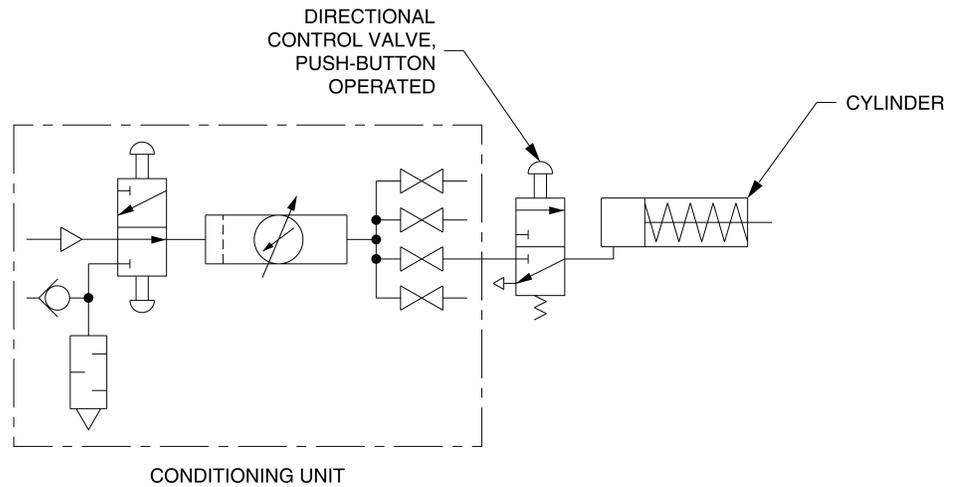
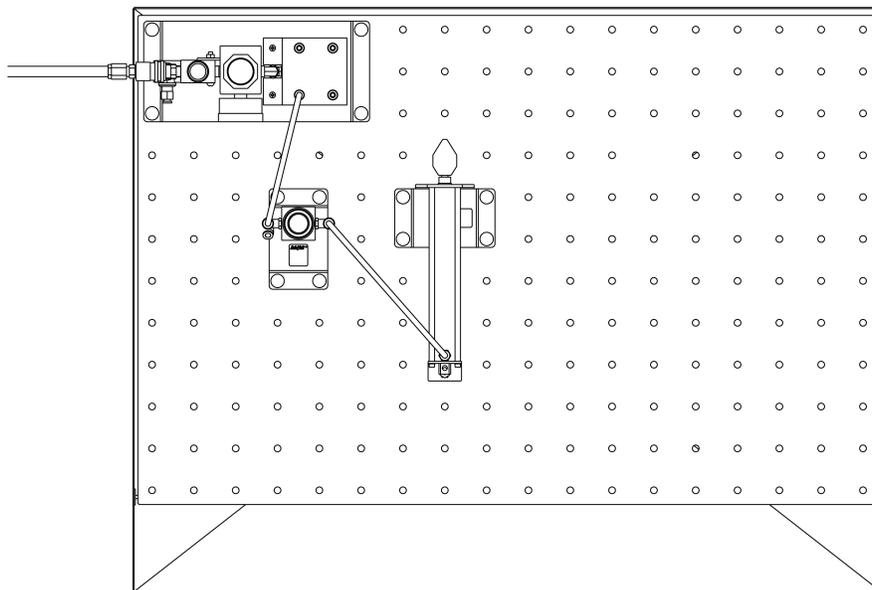

Figure 1-20. Schematic Diagram of a Pneumatic Circuit.
Figure 1-21. Connection Diagram of a Pneumatic Circuit.
- 3. Mount the components on the work surface and connect the circuit shown in Figure 1-20. Refer to the connection diagram shown in Figure 1-21 to make your connections. Connect the Conditioning Unit to the NC (normally non-passing) port of the directional control valve.